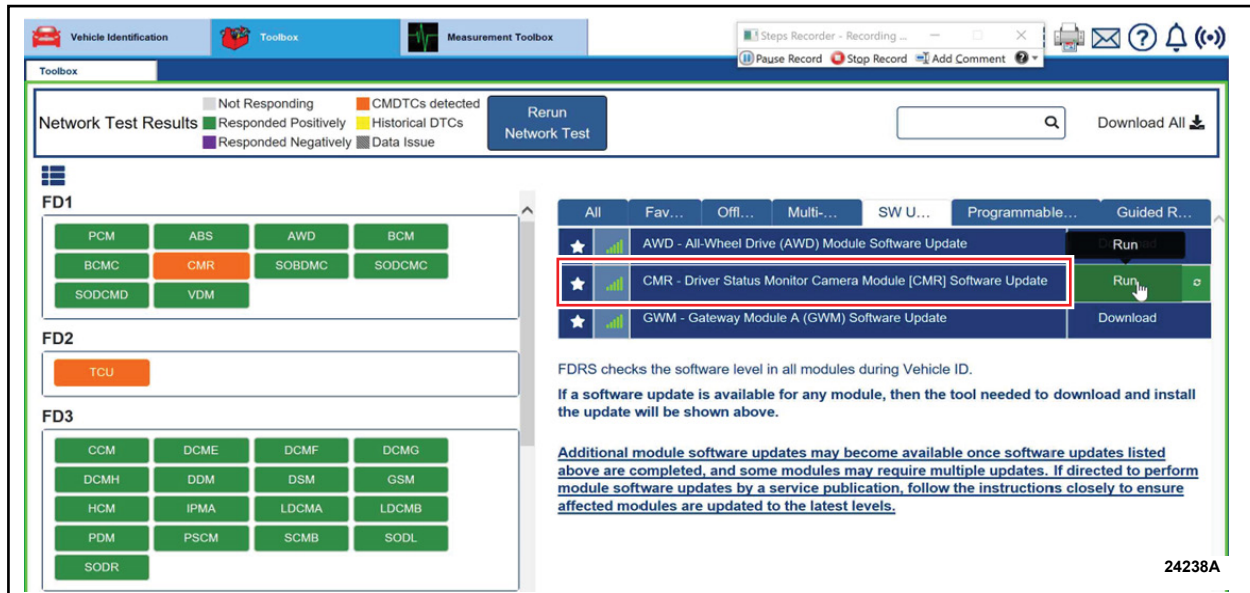

FIGURE 1
6. From the list on the RH side of the screen, select **CMR - Camera Module - Rear (CMR) Software Update**. See Figure 1.